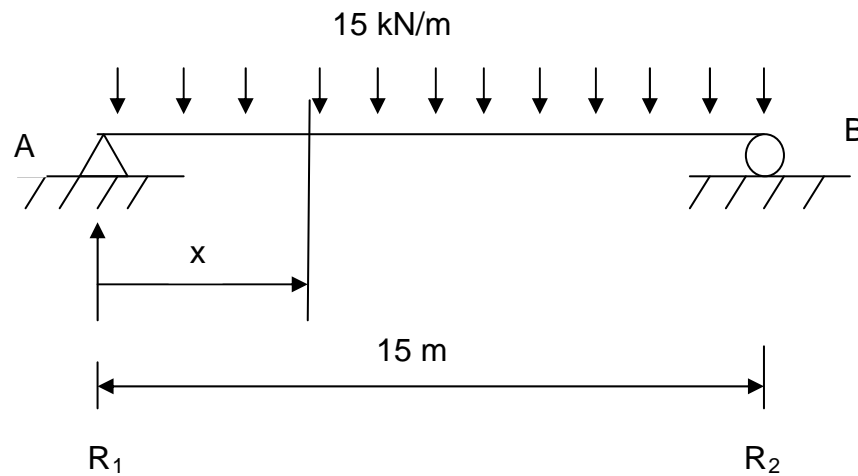

Figure 2/Rajah 2
2. (a) Calculate the reactions for the beam (R_1 and R_2) as shown in **Figure 2**.
- (b) Determine the bending moment (BM's) at 1m centre across the span shown in **Figure 2**.
- (c) Draw the bending moment diagram for the beam shown in **Figure 2**.